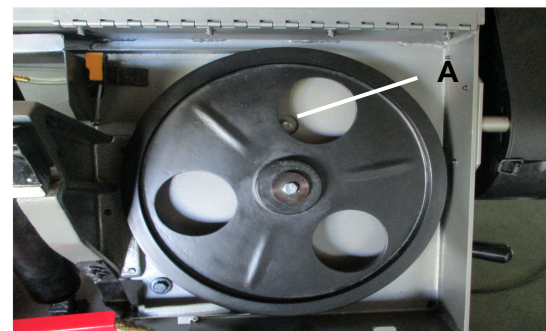

Figure 10-2
2. Remove oil fill plug (A, Figure 10-2) and fill gearbox with 850mL (0.9 qt.) of Mobil™ SHC 634 gearbox oil, or equivalent. Replace fill plug.